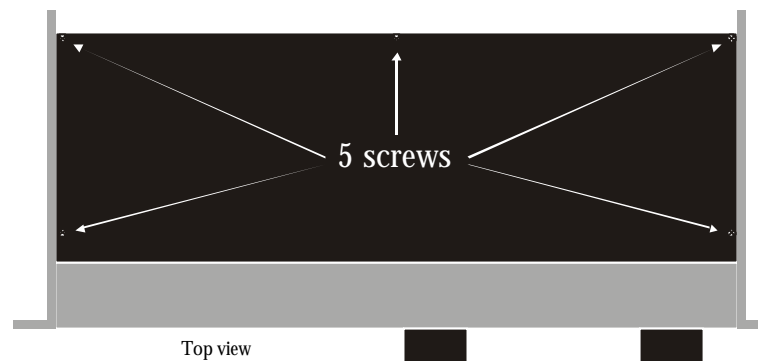

Fig. 1: Screws on top lid
3. Remove the top lid by loosening five screws, see fig.1.